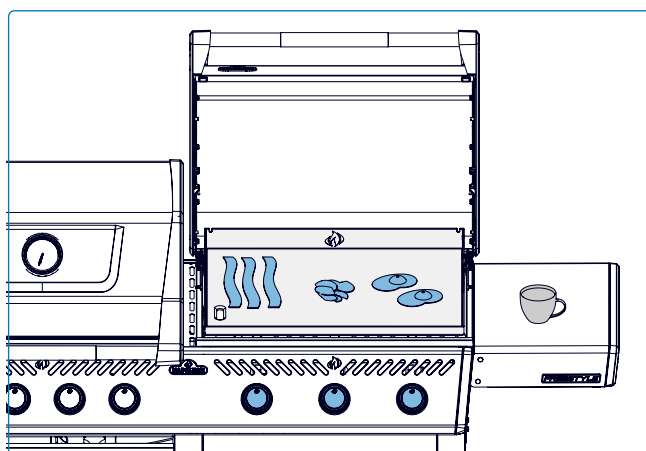

Fig. 18
- Monitor surface temperature as needed to maintain proper cooking heat (**Fig. 18**).